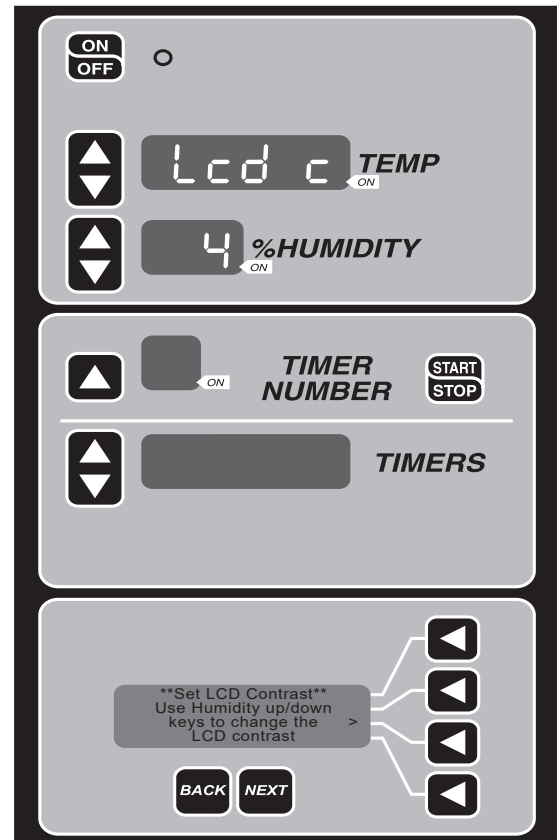

Fig. 26
5. While in the normal bootloader mode, hold down the HUMIDITY DOWN button and then press the TEMP UP button. You will see the LED display change and the LCD will display the instructions (Fig. 26). The system is now in LCD contrast setting mode.